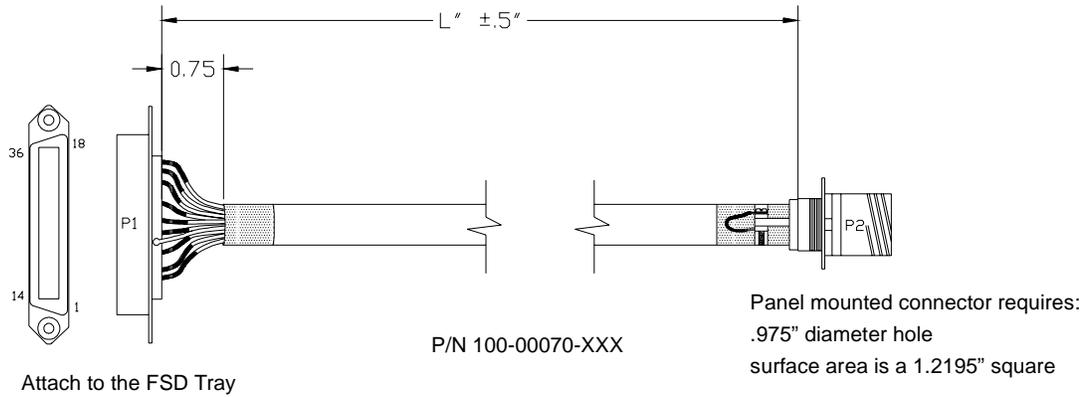

FIGURE 4: Panel Mount Cable for CD-ROM
4. Install the P1 end of cable 100-00070-XXX (Figure 4) into the J1 slot on the tray.